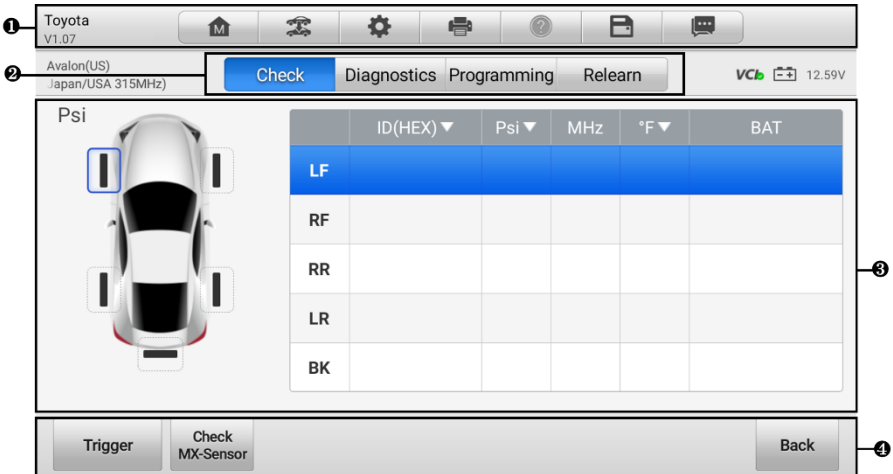

Figure 6-14 TPMS Service Screen
5. The TPMS Service screen will display. See Figure 6-14 TPMS Service Screen.
6. After confirming the vehicle information, tap **OK** to enter the TPMS Service screen. See Figure 6-14 TPMS Service Screen.
7. Follow the on-screen instructions to complete the operation and advance to the TPMS Service screen. See Figure 6-14 TPMS Service Screen.
5. Follow the on-screen instructions to confirm the vehicle information and finally enter the TPMS Service screen. See Figure 6-14 TPMS Service Screen.